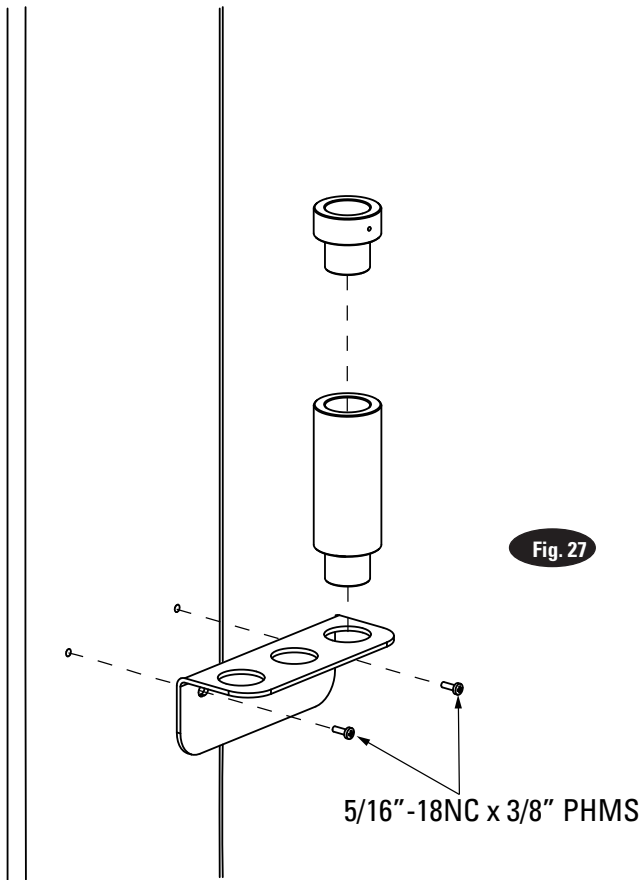

Fig. 27
**21. Exterior Adapters:** Install adapter bracket to outside of each column using (2) 5/16"-18NC x 3/8" PHMS. Then, add adapters to the bracket as shown, Fig. 27.